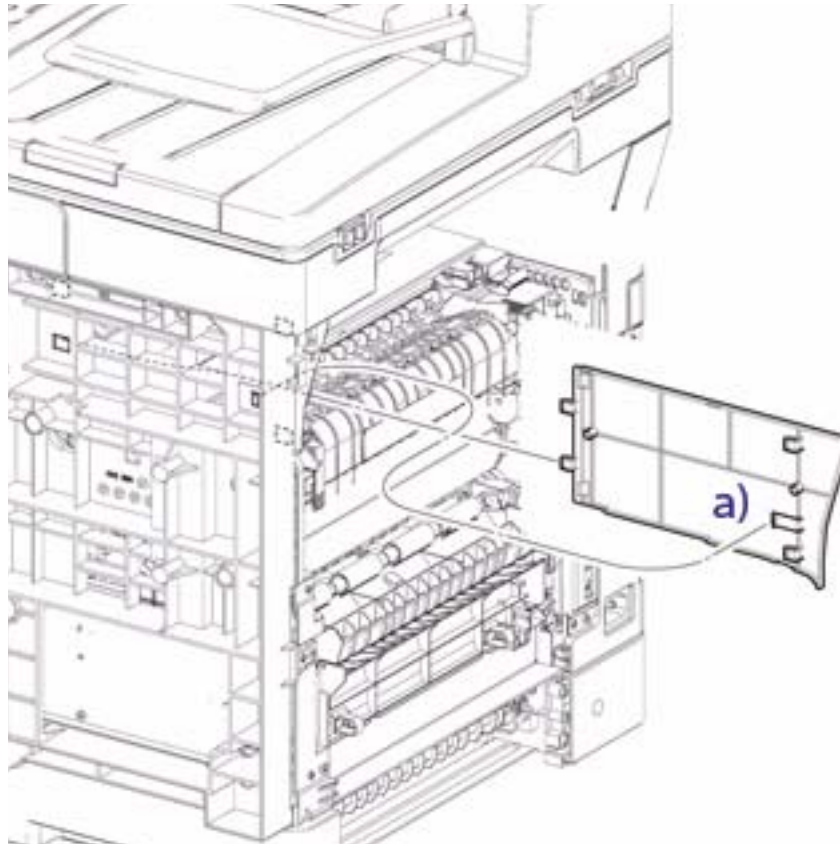

Figure 1
2. Release the clip to remove the Right Inner Cover. (Figure 1)